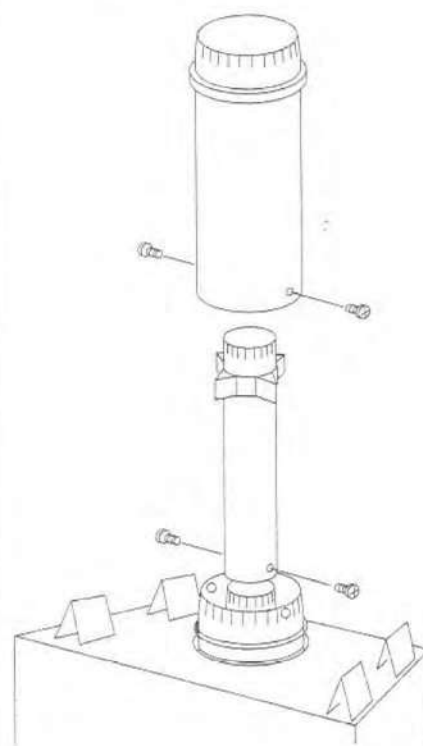

Figure 27
E. The vent elbow sections are crimped at one end to provide slip-fit assembly. Slide the 4" (102 mm) inner section onto the center collar, bottoming out at the circular bead. (Crimped end always upward.) Locate and drill 1/8" (3 mm) diameter hole through the collar at the two (2) punched holes (180° apart). Use No. 8 x 1/2" sheet metal screws, to secure each section. Apply high temperature sealant to the joint, being sure of 100% seal. (Sealant such as DS-HTS or RTV silicone adhesive - 600°F) (Figure 27).